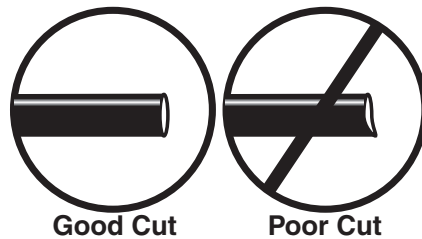

fig. 11
WHEN CUTTING OR TRIMMING THE AIR LINE, USE A HOSE CUTTER, A RAZOR BLADE OR A SHARP KNIFE. A CLEAN, SQUARE CUT WILL PREVENT LEAKS. DO NOT USE WIRE CUTTERS OR SCISSORS TO CUT THE AIR LINE. THESE TOOLS MAY FLATTEN OR CRIMP THE AIR LINE, CAUSING IT TO LEAK AROUND THE O-RING SEAL INSIDE THE ELBOW FITTING (FIG. 11)
7. Cut off air line leaving approximately 12" of extra air line. A clean square cut will ensure against leaks (see fig. 11). Insert the air line into the air fitting. This is a push to connect fitting. Simply push the air line into the 90° swivel fitting until it bottoms out (9/16" of air line should be in the fitting).
- a. Check the air line connection by deflating the spring and removing the line by pulling the collar against the fitting and pulling firmly on the air line. Trim 1" off the end of the air line. Be sure the cut is clean and square (see fig. 11). Reinsert the air line into the push-to-connect fitting.